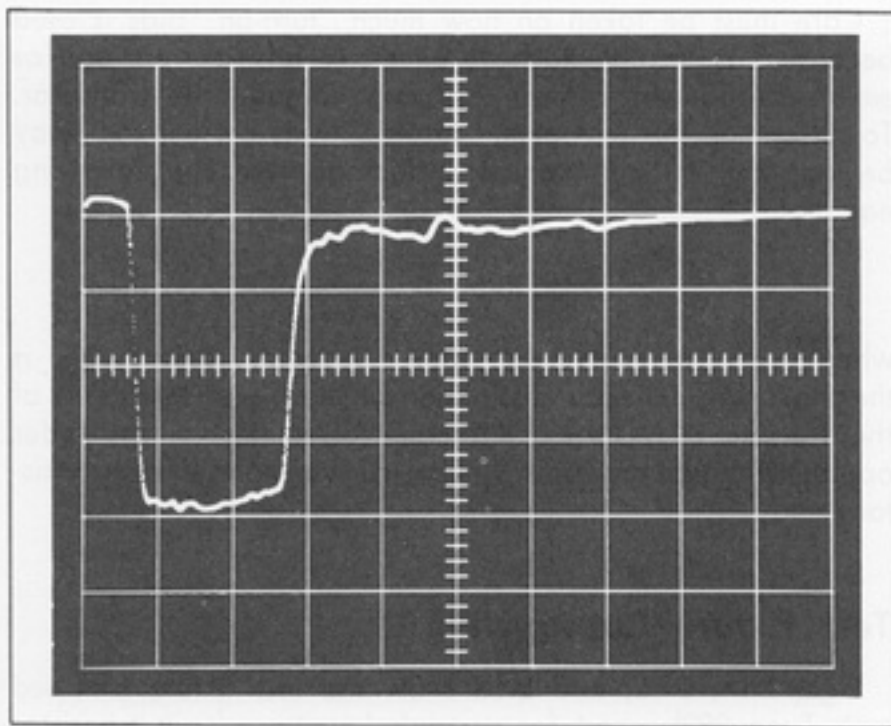
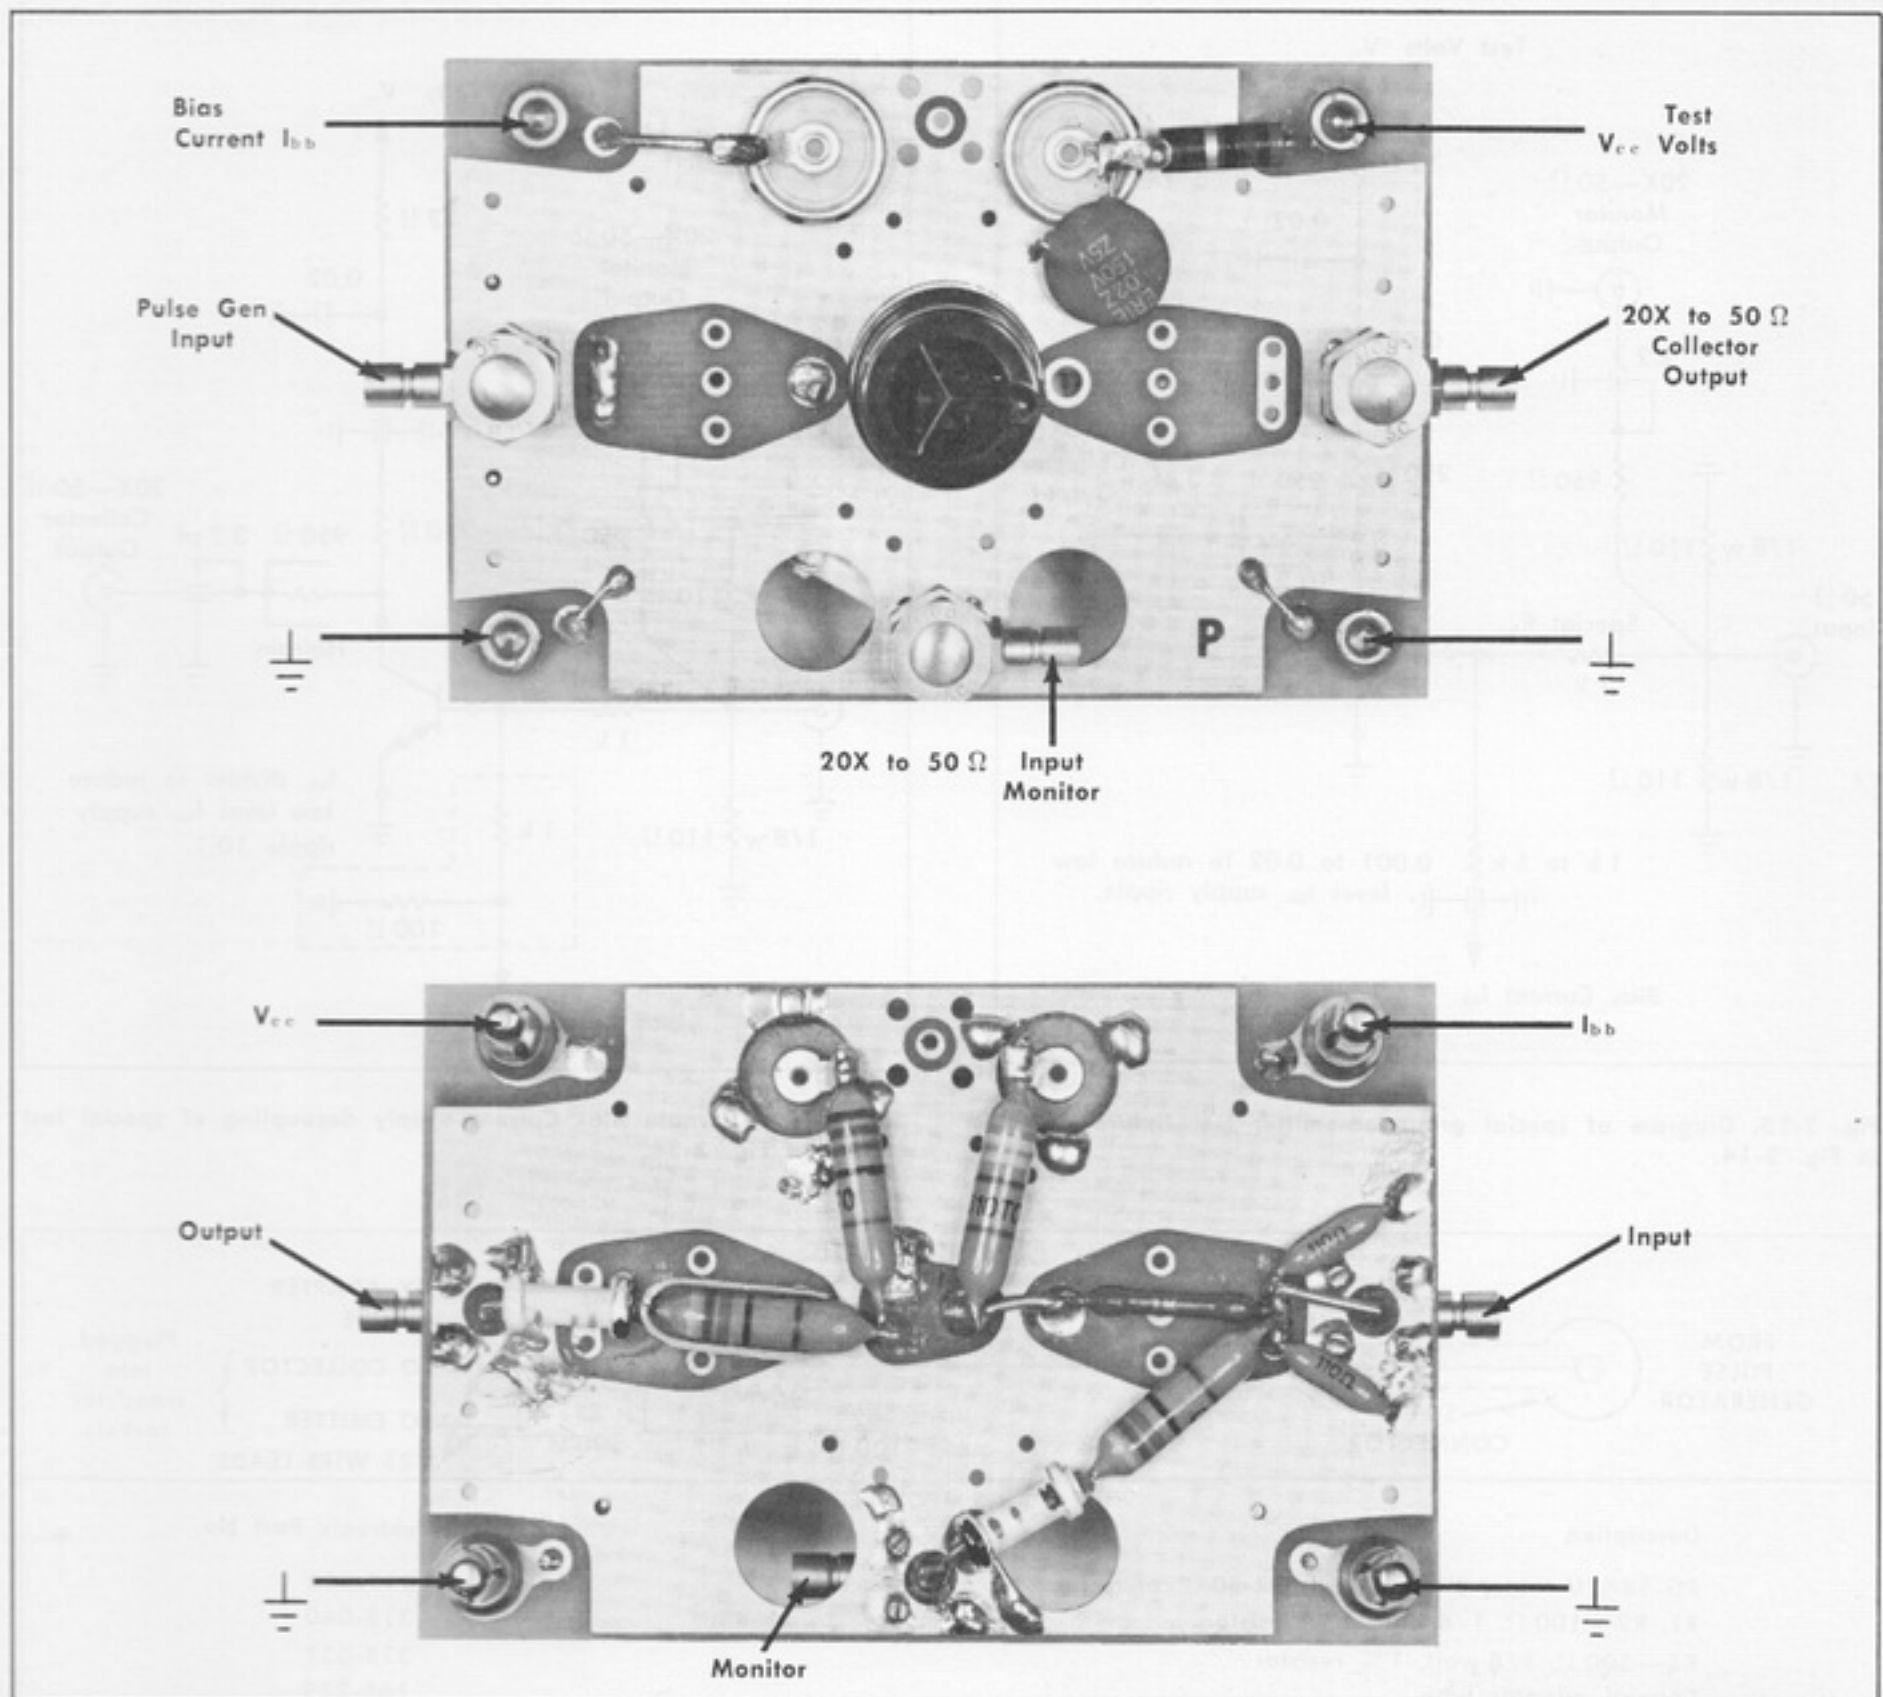
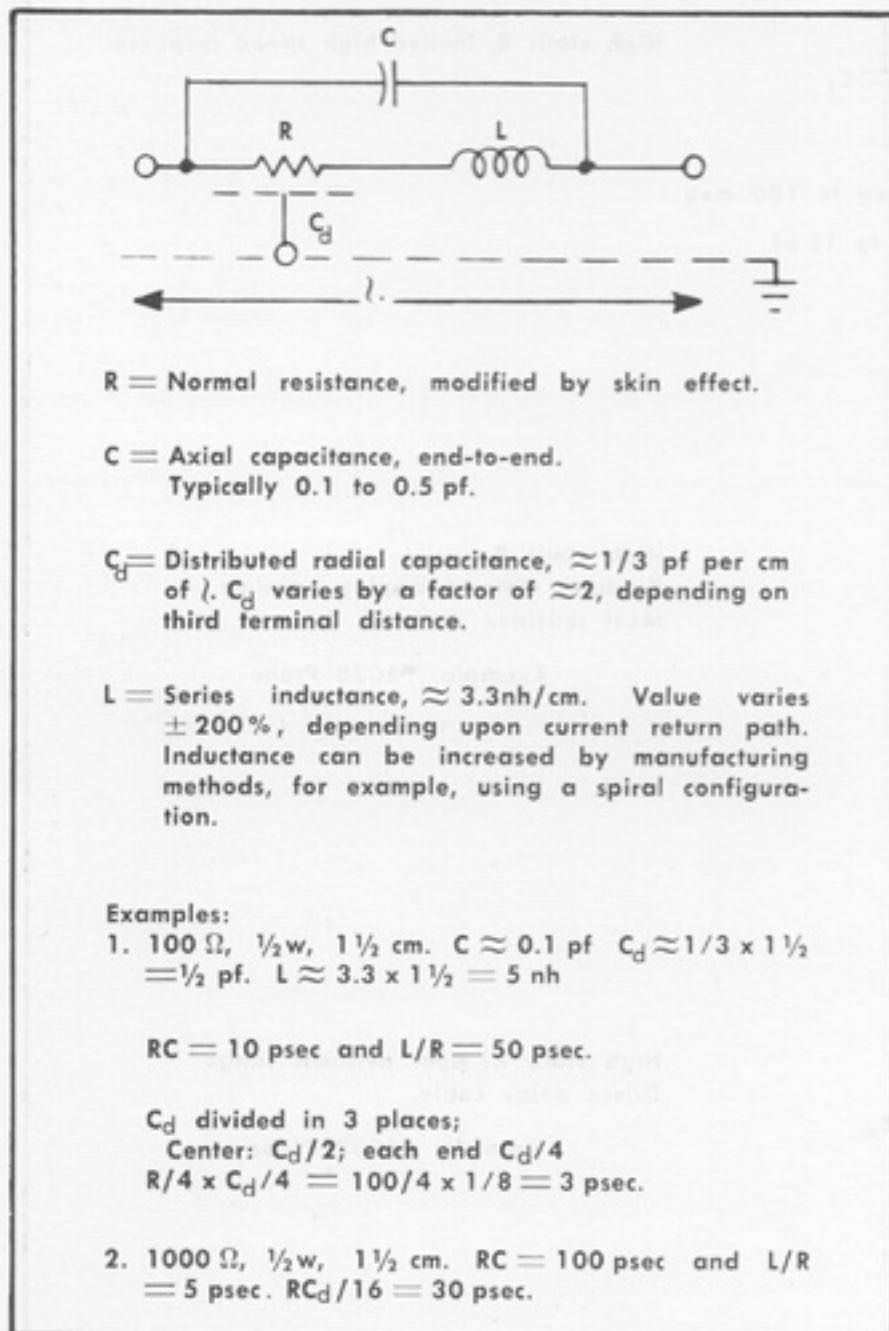
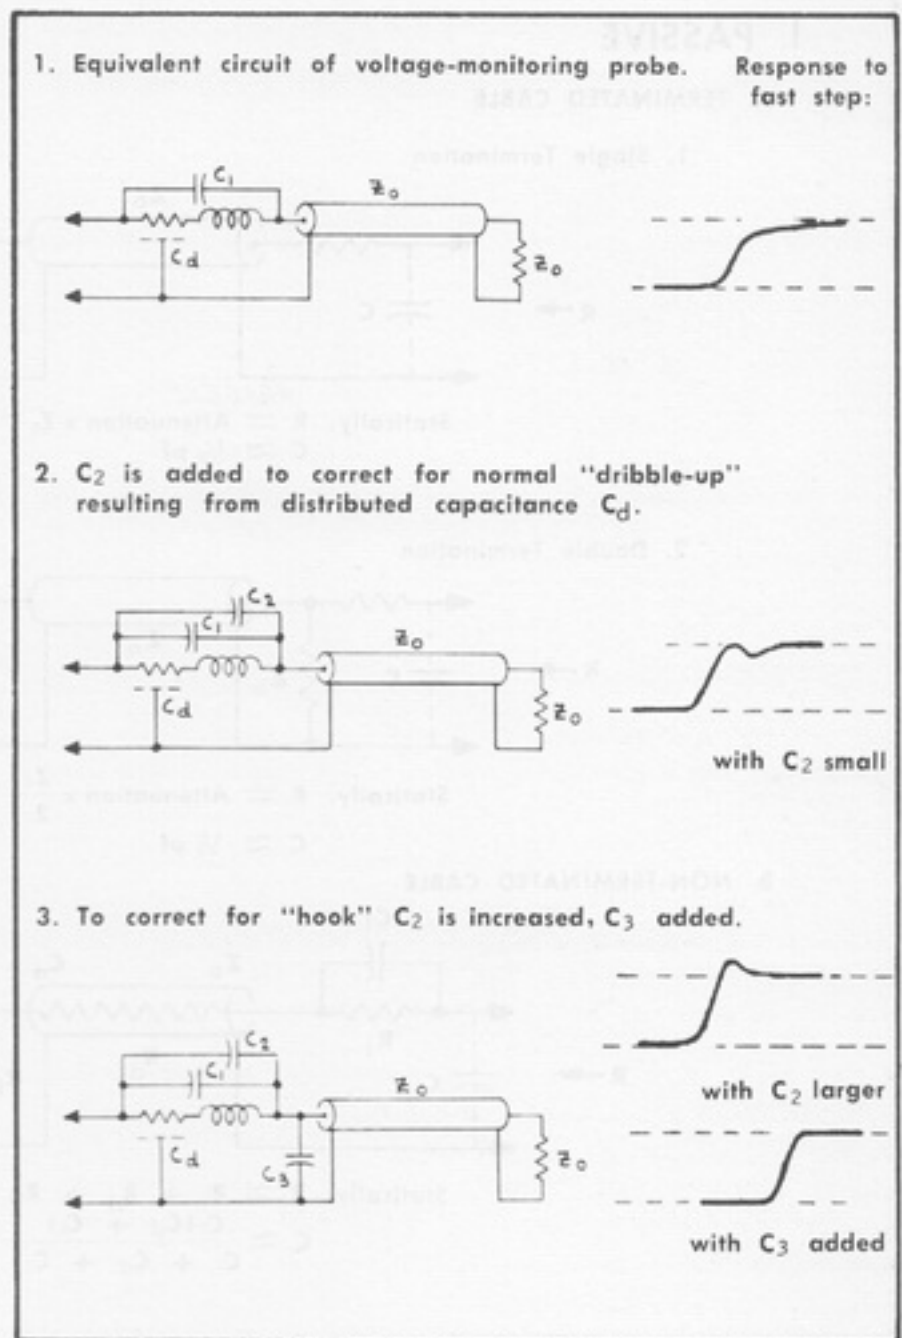

Fig. 2-9. The switching pulse applied to the transistor base.
Fig. 2-14. Test fixture wired as grounded-emitter test circuit diagrammed in Figs. 2-15 and 2-16.
Fig. 2-19. Equivalent circuit and environment of a deposited carbon resistor.
Fig. 2-20. Fractional nanosecond compensation of low resistance passive probes.
2. Obtain a free-running sweep on the oscilloscope, and vertically position the trace to a convenient graticule line. This establishes the zero collector-volts reference line; therefore, do not adjust the vertical position control during the remainder of this procedure. (For dual-trace test systems, display only the one signal from the test fixture collector connector for the entire procedure. See Fig. 2-14.)
2. Turn the pulse generator on and set the oscilloscope controls for a display similar to that shown in Fig. 2-9 at the test fixture monitor jack (Fig. 2-14).
2. Turn the pulse generator on and set the oscilloscope controls for a display similar to that shown in Fig. 2-9.
Figs. 2-14, 2-15, and 2-16 show the test fixture (shipped with Type 292) wired for grounded-emitter circuit transistor testing. Items of special note for construction techniques are as follows.
Voltage-sensing, "non-loading" probes can be grouped into the four basic categories shown in Fig. 2-18. Since a removable probe must be designed with the same electrical parameters as a built-in probe, no distinction will be made between the two. Single and double terminated passive probes (Types 1.A.1. and 1.A.2. of Fig. 2-18) are of primary interest because of the good high-speed response. Small passive probes (Type 1.A.1. of Fig. 2-18) are available with risetimes of 100 picoseconds and 200 picoseconds, such as built into the test fixture of Fig. 2-14.
Major limiting factors, when building attenuator probes, are the resistor characteristics at fractional nanosecond speeds. Fig. 2-19 shows the equivalent circuit of a deposited carbon resistor with normal axial leads. Because of these equivalent circuit characteristics, frequency compensation of the terminated cable probe of Fig. 2-18(1.A) requires the special construction techniques shown in Fig. 2-20. The probe built into the test fixture of Fig. 2-14 is accurately represented by Fig. 2-20 (3).